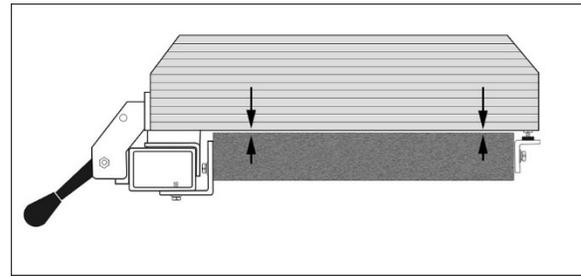

Figure 10: fence-to-table clearance
1. Check clearance between table and bottom of fence (Figure 10). The fence should not rub against the table surface but be slightly above it. This gap should be the same at front of table as at the back.